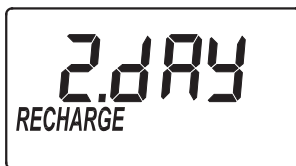

FIG. 31
1. If you completed the previous steps, the words “RECHARGE” and “day” should show in the display (See Figure 31). Otherwise, press the SELECT button several times until they do.